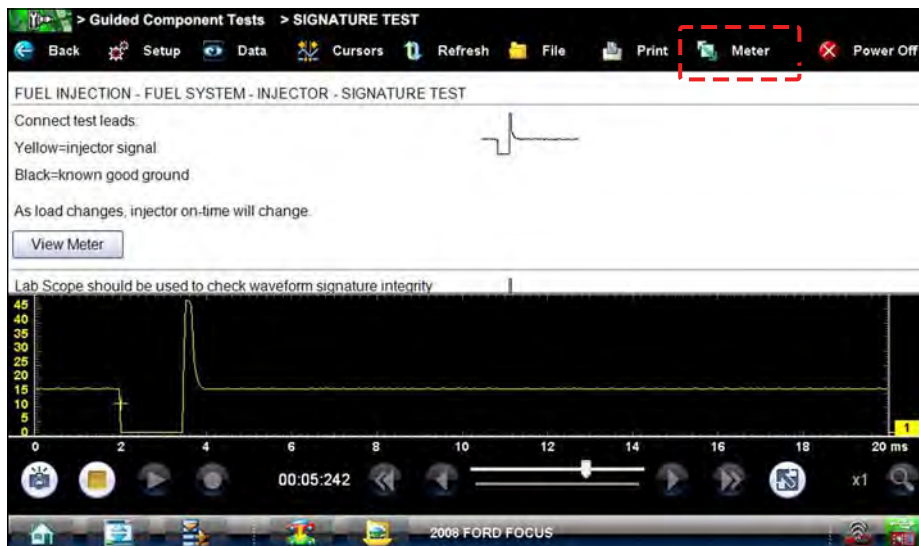

Figure 7-10 Sample view meter window
- **View Meter**—opens a live meter set up to perform the test in the lower portion of the screen (Figure 7-10). Once the meter view is open, the Guided Component Test toolbar at the top of the screen is replaced by the Scope Multimeter toolbar, which allows you to make adjustments to the settings. See Scope Multimeter Toolbar on page 106 for details.
A Meter icon, which is only available in the Guided Component Test view meter mode, appears on the upper toolbar (Figure 7-10).
1. With View Meter active (Figure 7-10), select the **Meter** icon on the toolbar once and the meter expands to fill the entire screen.
3. Select the **Meter** icon a third time to close the separate window and return to the standard meter view as shown in Figure 7-10.